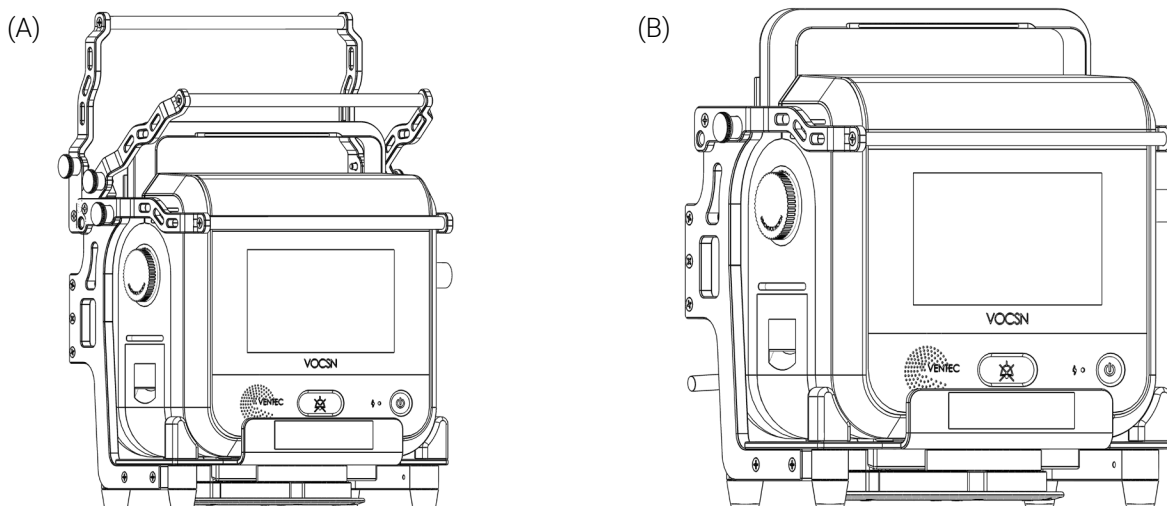

Figure 3: VOCSN ventilator installed in Bracket Pro Serie 280
5. Lower the pull-down bar over the ventilator to lock it (Figure 3 A).
NOTE: The pull-down bar will not lower enough to securely lock if the VOCSN ventilator handle is not up. Lift the handle (Figure 3 B), then lower the pull-down bar to lock it.